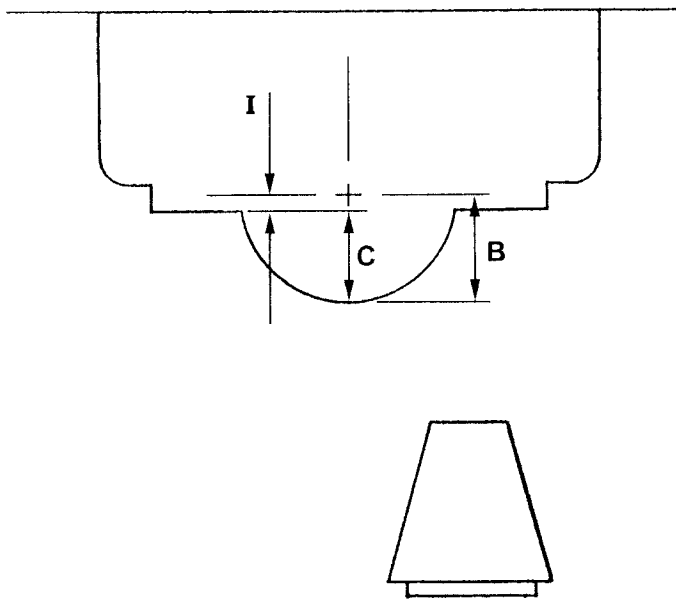

FIGURE 8
9. Subtract "C" from "B" to find "I" ($B-C=I$). **Important note:** Figure 8 is drawn with "C" smaller than "B"; in other words, the bearing cap parting line is below the centerline. However, in some cases, "C" will be larger than "B", meaning that the parting line is above the centerline. **Always use the formula $B-C=I$. If "C" is larger than "B", then "I" will be negative. Do not ignore the negative sign.**